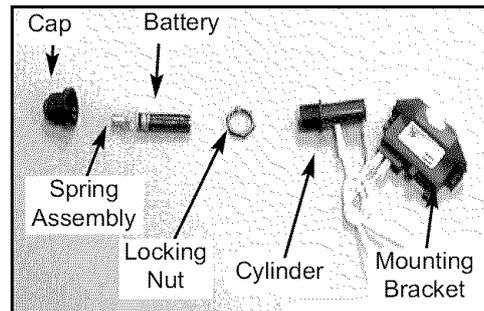

Fig. 1
1. Remove the igniter cap, spring assembly, battery and lock nut from Igniter. (See Fig. 1)